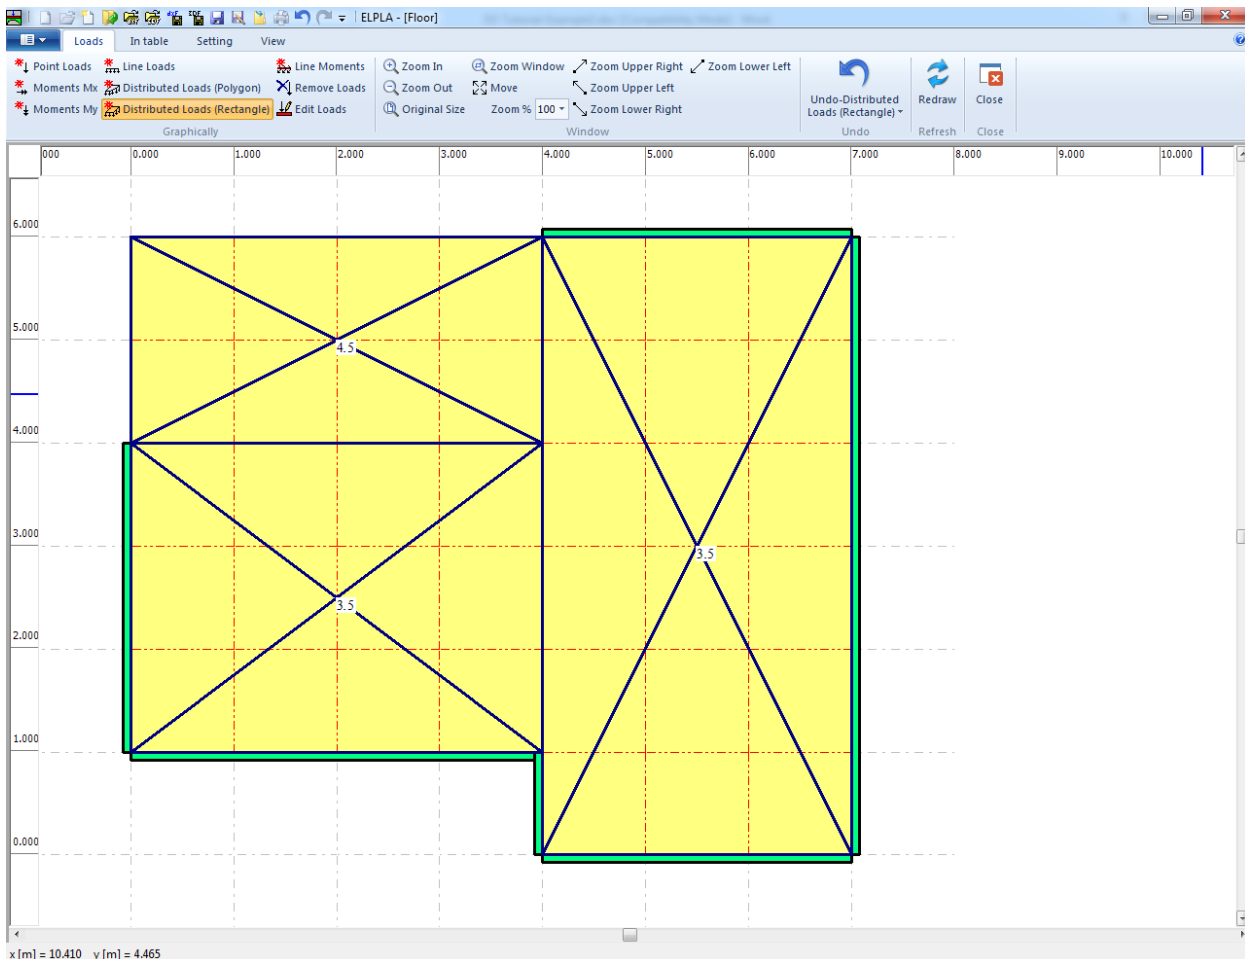

Figure 2.34 Loads on the FE-Net
Repeat the previous steps to enter the remaining distributed loads on the net. After you have completed the definition of all loads on the net, the screen should look like the following Figure 2.34.
- Choose "Save" command from "File" menu in Figure 2.34 to save the load data
- Choose "Close" command from "File" menu in Figure 2.34 to close the "Loads" Window and return to ELPLA main window.